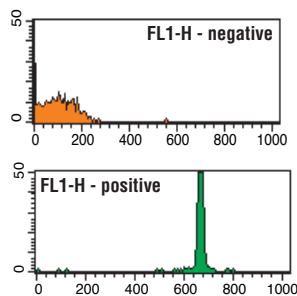

Figure 5
2. Using the FL1 and/or FL2 channels (depending on the reporter antibodies used) determine whether or not any bead populations tested "positive" for the analyte. (Figure 5) *Note:* A positive bead will produce a fluorescence peak in the FL1 or FL2 channel. The minimum fluorescence intensity needed to be considered "positive" is based on the Relative Channel Value of the peak. It is up to the investigator to determine what threshold RCV value will constitute a "positive" result.